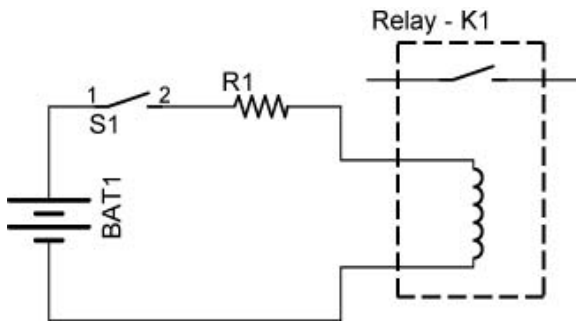

Figure 2
- Action: When the control circuit of a relay magnetizes the coil, the coil's attraction force pulls a lever arm called an armature toward the coil. This action turns the secondary circuit on and off. See Figures 2 and 3.